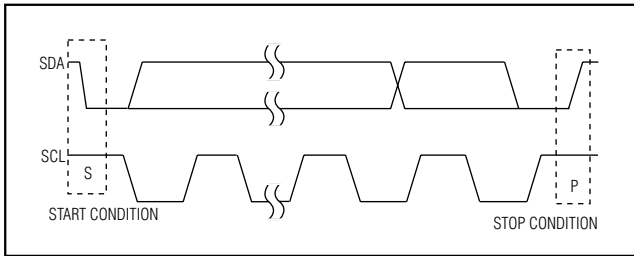
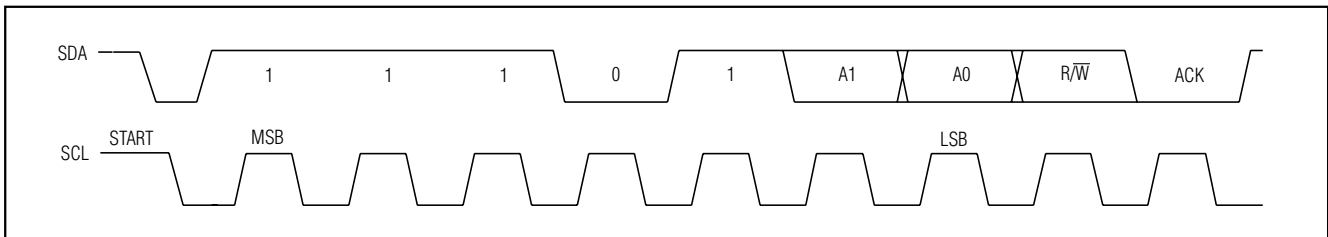

Figure 7. Start and Stop Conditions
Figure 10. Slave Address
Each transmission consists of a START condition (Figure 7) sent by a master, followed by the MAX6853 7-bit slave address plus R/W bit (Figure 10), a register address byte, 1 or more data bytes, and finally a STOP condition (Figure 7).
Both SCL and SDA remain high when the interface is not busy. A master signals the beginning of a transmission with a START (S) condition by transitioning SDA from high to low while SCL is high. When the master has finished communicating with the slave, it issues a STOP (P) condition by transitioning the SDA from low to high while SCL is high. The bus is then free for another transmission (Figure 7).
The MAX6853 has a 7-bit-long slave address (Figure 10). The eighth bit following the 7-bit slave address is the R/W bit. Set it low for a write command and high for a read command.